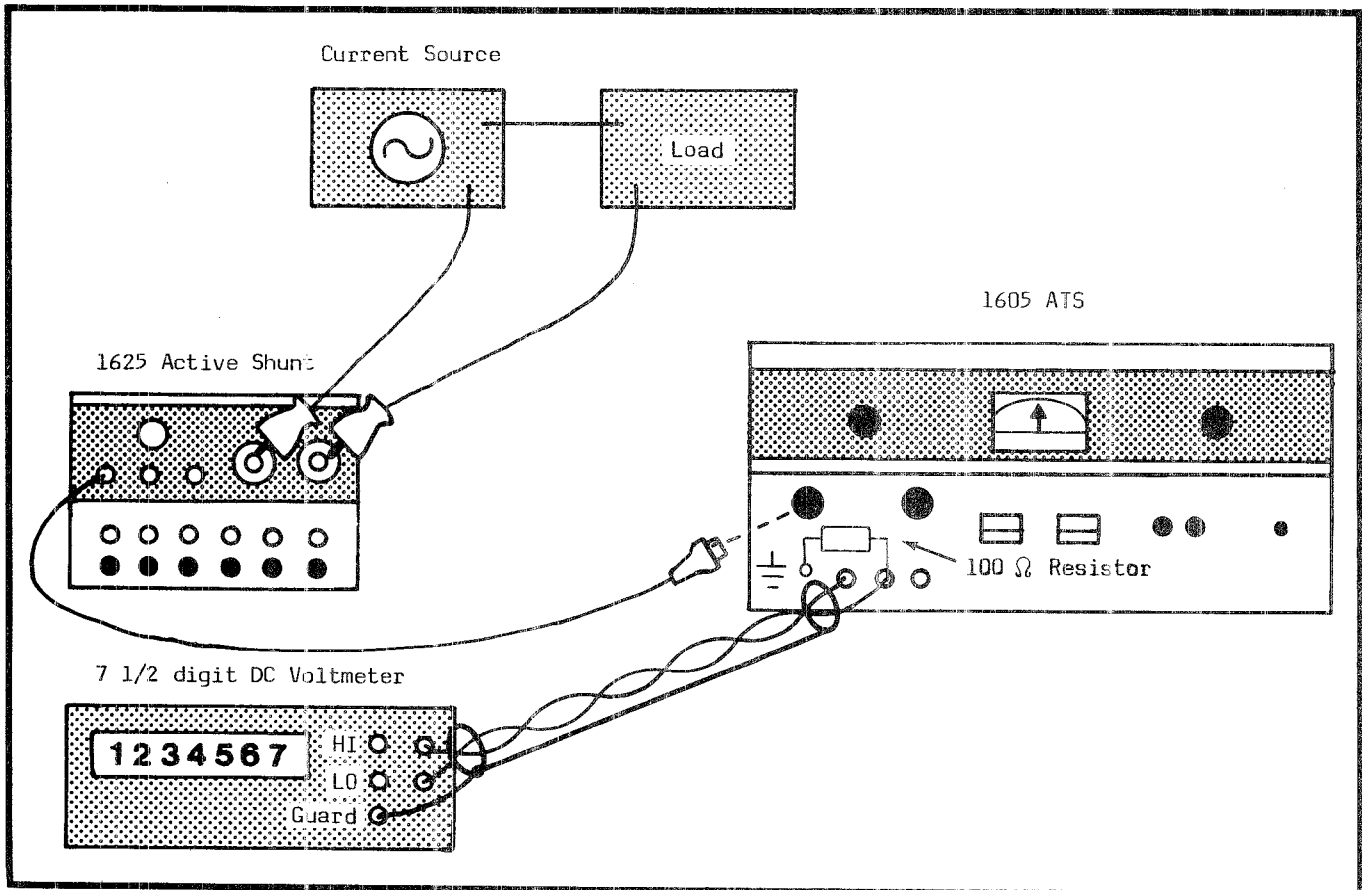

Figure 3-8. Measuring Current Using Model 1625 Active Shunt
a. Connect the test set-up of Figure 3-8. Be certain that the active shunt has NBS traceable certification of ac/dc difference.